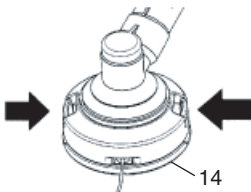

Fig. 21
(1) Remove the case (14) by firmly pushing inward the locking tabs with your thumbs as shown in Fig. 21.